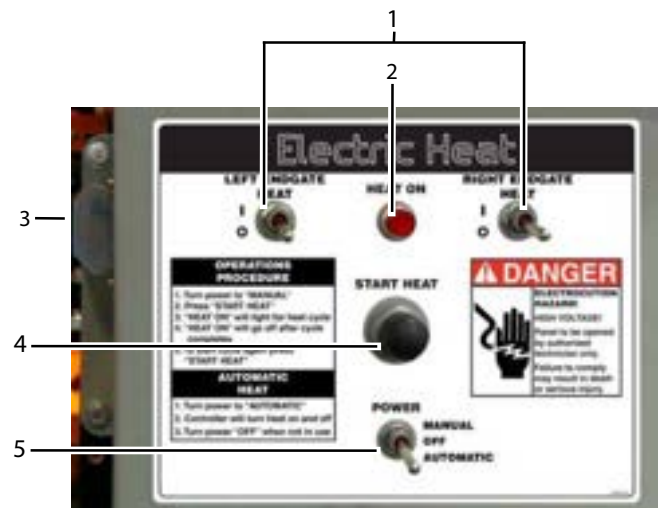

Figure 4-38. Electric Heat Control Box
The LeeBoy 8510E Conveyor Paver offers an optional Electric Heat system to heat the screed, including the screed extensions, in lieu of the propane burner system. A hydraulically-driven generator powers the electric heat control box mounted in the center on the rear side of the machine. This control box is where you will select the heating function before you begin to pave. (**Figure 4-38**)
4. Turn the electric heat control box power ON by flipping the power switch up. **(Figure 4-38)**